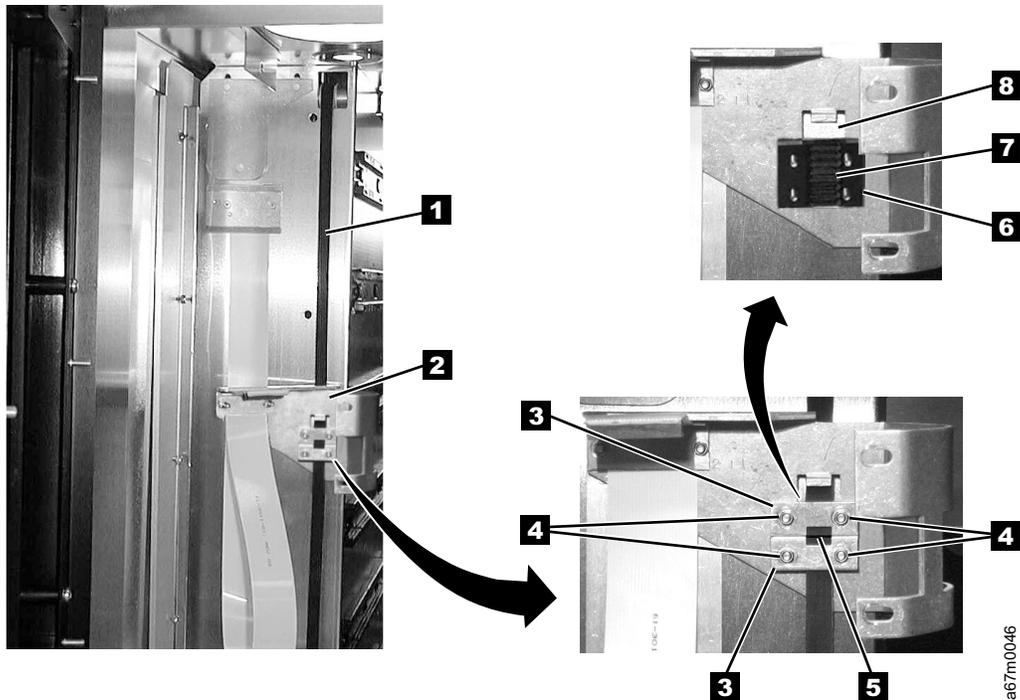

Figure 7-17. Installing Belt Clamps
5. See Figure 7-17 on page 7-20. Find the ends of the Y-axis drive belt at top and bottom of the retaining wall. Bring the top end of belt down behind belt clamp plate **2** and through slot **8** in the belt clamp plate.